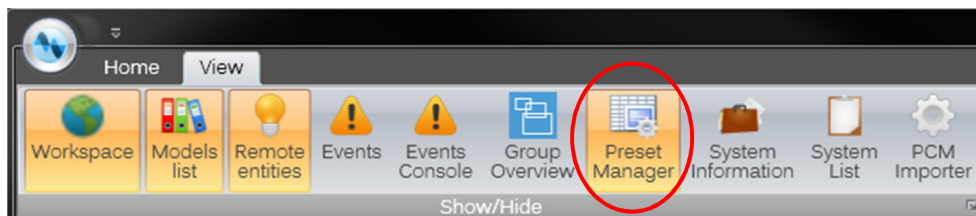

Figure 1
- 3) Click the *View* menu and make sure the *Preset Manager* icon is highlighted (see *Figure 1* below).